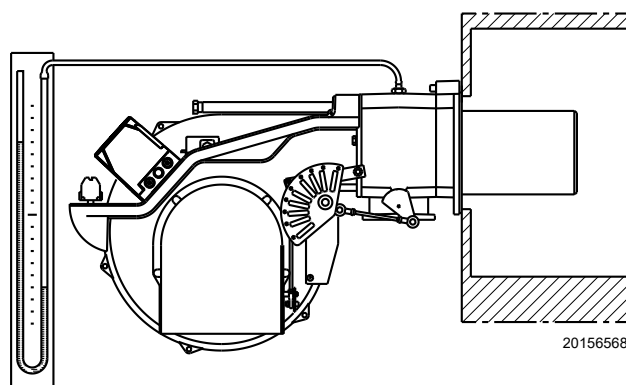

Fig. 27
- Fit a U-type pressure gauge or a differential pressure gauge (Fig. 27), with socket (+) on the gas pressure of the pipe coupling and (-) in the combustion chamber.
The arrival of gas to the sleeve is indicated by the U-type pressure gauge (Fig. 27 on page 25).
A rough indication can be obtained from Tab. I on page 22, just read the gas pressure on the "U" pressure gauge (see Fig. 27 on page 25) and follow the indications.